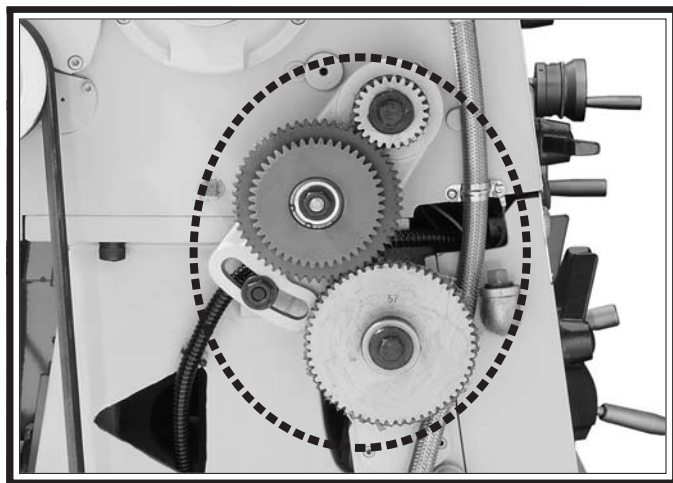

Figure 107. End gears.
The end gears, shown in **Figure 107**, should always have a thin coat of heavy grease to minimize corrosion, noise, and wear. Wipe away excess grease that could be thrown onto the V-belts and reduce optimal power transmission from the motor.
2. Remove the end gear cover and all the end gears shown in **Figure 107**.